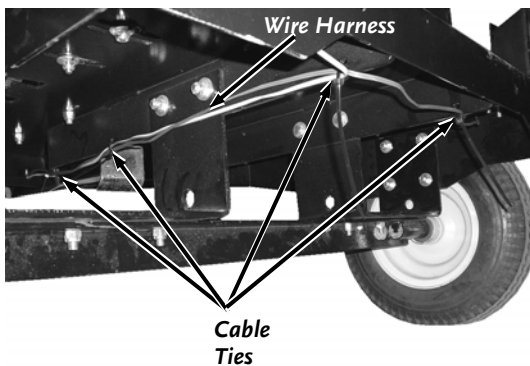

Figure 65
8. Secure the Wires under the Frame with Cable Ties at the four places shown (**Figure 65**).